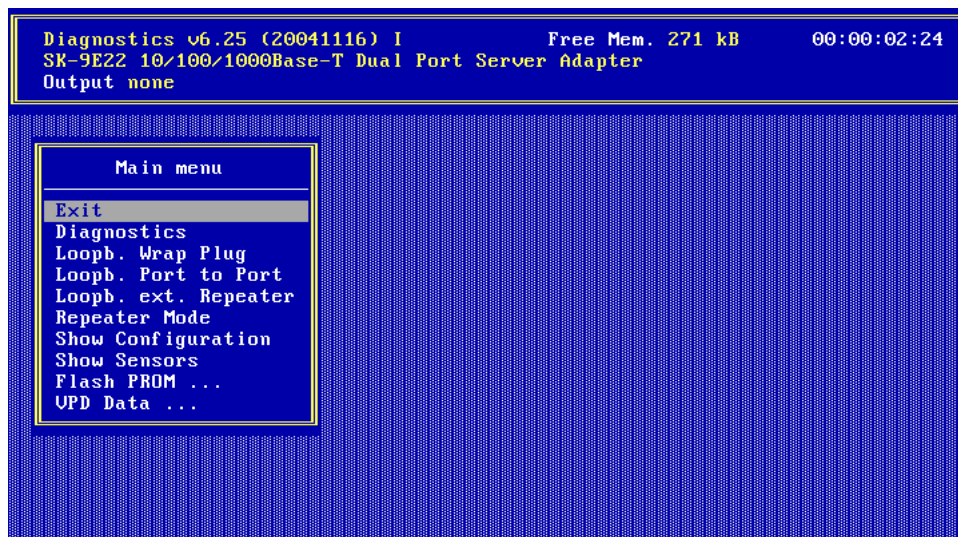

Figure 9. Diagnostics program, main menu
7. Select the appropriate item from the menu (see figure 9 “Diagnostics program, main menu”).